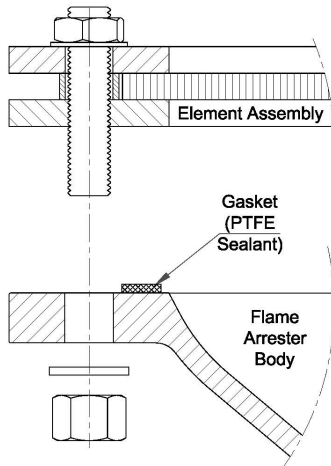

Figure 2 – Gasket Installation (Section View)
- Clean both flanges of all old gasket material (Figure 2). If the surfaces are oily, clean with a solvent so that the sealant adhesive strip will adhere properly.